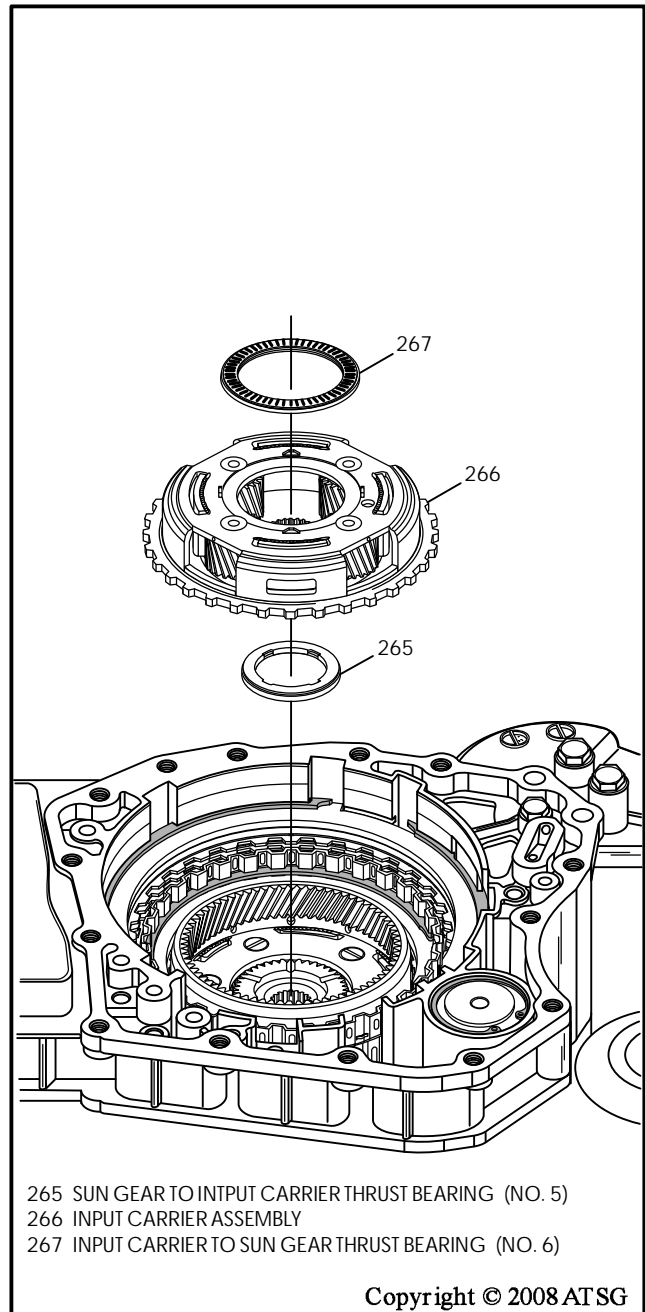

Figure 201
28. Ensure that the number 5 thrust bearing and the number 6 thrust bearing are in place on the input carrier, as shown in Figure 201, and then install the input carrier assembly by rotating into position.